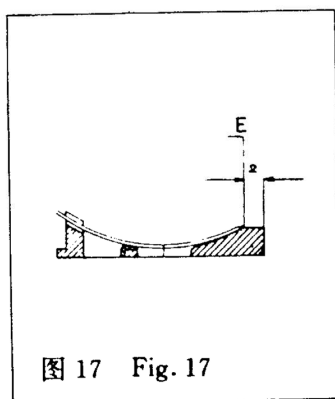

图 17 Fig. 17
(4) 机针摆幅 机针的摆幅决定了机针右极限的位置。要求机针运动到右极限时, 针尖到针板右侧面的距离为 2 毫米左右(图 17), 此时针尖刚好微露出右导针槽的极限点“E”(图 17)。如果上述位置不正确, 必须调整机针摆幅。
The right limit of needle depends on the limit of the needle throw. When the needle reaches the right limit, the needle point shall be in about 2mm distance from the right side of the needle plate (Fig. 17). At this moment, the needle point is right put out of the limit point "E" of the right needle guide groove (Fig. 17). If the positioning of location is incorrect, the limit of the needle throw shall be regulated.